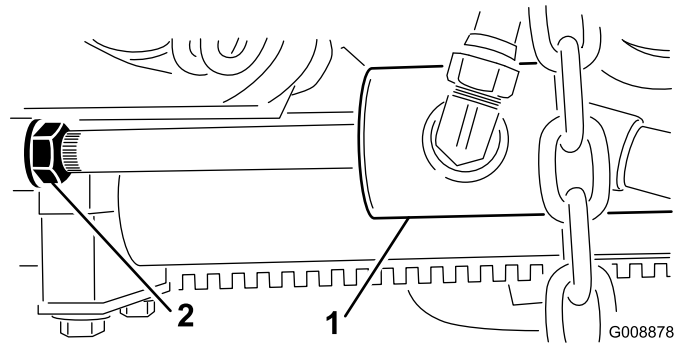

Figure 10
- B. Back off the jam nut on the cylinder (Figure 10).